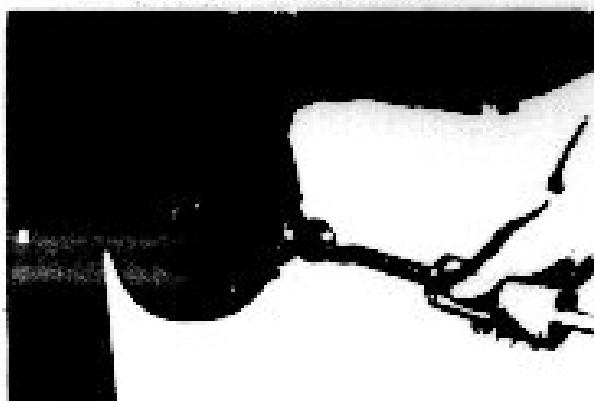

Fig. 5-2.
- 3) Take out the cotter pin from the front hub nut and remove the hub nut and then pull out the brake drum with the aid of the special tool-wheel hub puller—09943-35511 as shown in the Fig. 5-2 and slicing hammer.